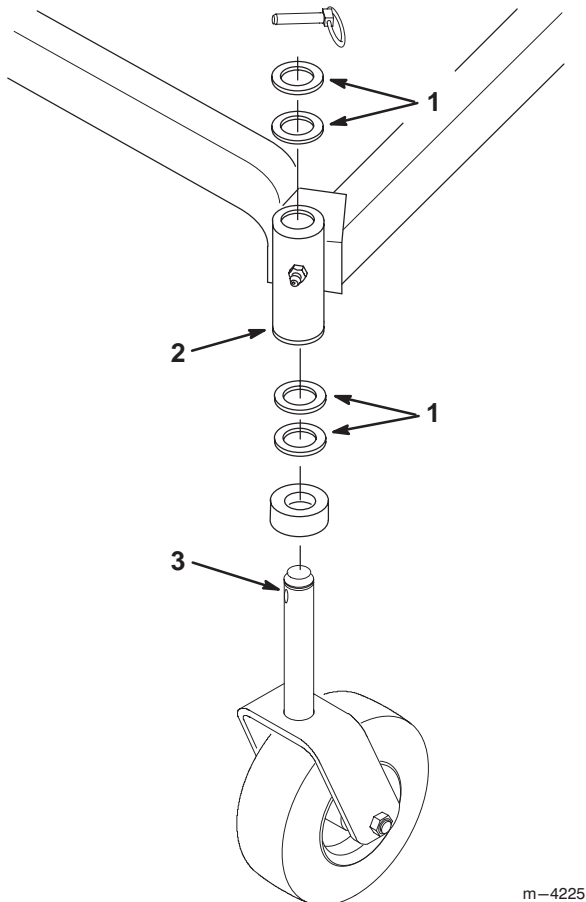

Figure 19
4. To change the front-to-rear pitch, move an equal number of thrust washers on both castor wheel forks. Move the thrust washers from the top of the carrier frame mounting tube to the bottom to raise the front of the mower. Move the thrust washers from the bottom of the mounting tube to the top to lower the front of the mower (Fig. 19).
4. To change the side-to-side leveling, move the thrust washers on one castor wheel fork only. Move the thrust washers from the top of the carrier frame mounting tube to the bottom to raise the corresponding side of the mower. Move the thrust washers from the bottom of the mounting tube to the top to lower the corresponding side of the mower. (Fig. 19).